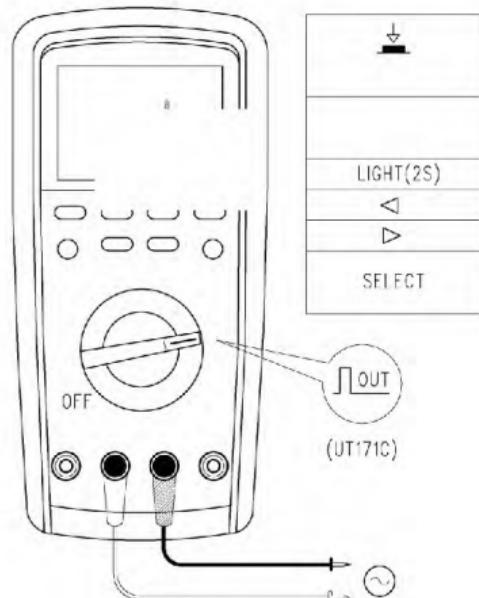

Fig. 13
11. Square wave output (see Fig. 13)